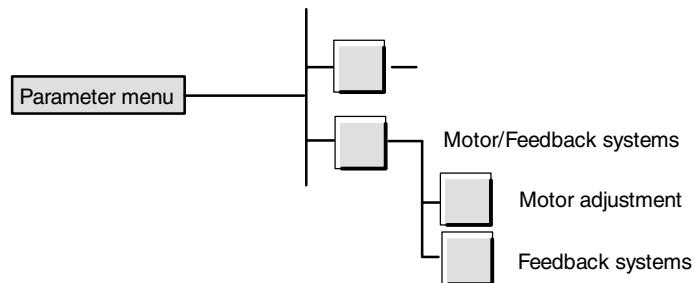

Fig. 5-4 How to find the menus "Motor setting" and "Feedback systems"
- For this, change to the parameter menu (see button Fig. 5-4) and select the menu "Motor/feedback system".
Change to the menu "Motor setting" (see Fig. 5-4).